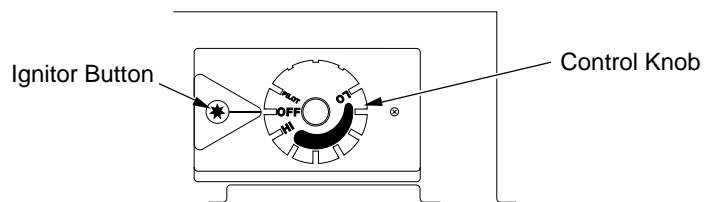

Figure 30 - Control Knob In The OFF Position
4. Wait five (5) minutes to clear out any gas. Then smell for gas, including near the floor. If you smell gas, **STOP!** Follow "B" in the safety information above. If you don't smell gas, go to the next step.
5. Turn control knob counterclockwise  to the PI-LOT position. Press in control knob for five (5) seconds (see Figure 30).
**Note:** If pilot goes out, repeat steps 3 through 7. This fireplace has a safety interlock system. Wait one (1) minute before lighting pilot again.